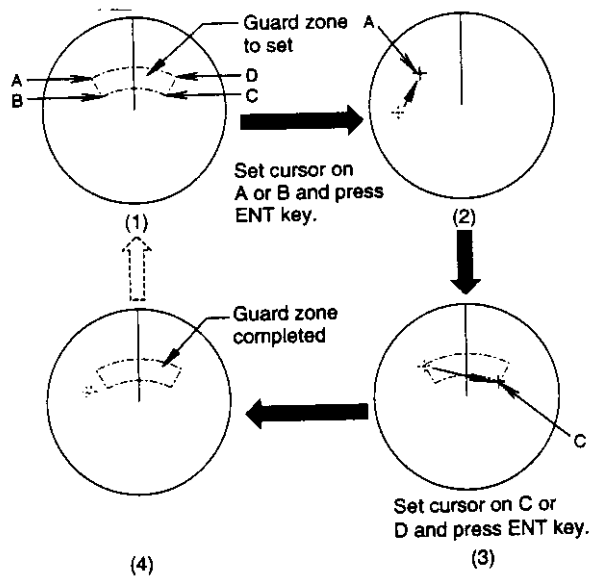

Figure 2-19 How to set the guard zone
5. Referring to Figure 2-19, operate the omnipad to set the cursor on point A or B. Press the [ENT] key. "**G (IN)" or "**G (OUT)", with asterisk blinking, appears at the top right-hand corner of the display. The asterisk indicates the guard zone is partially set.